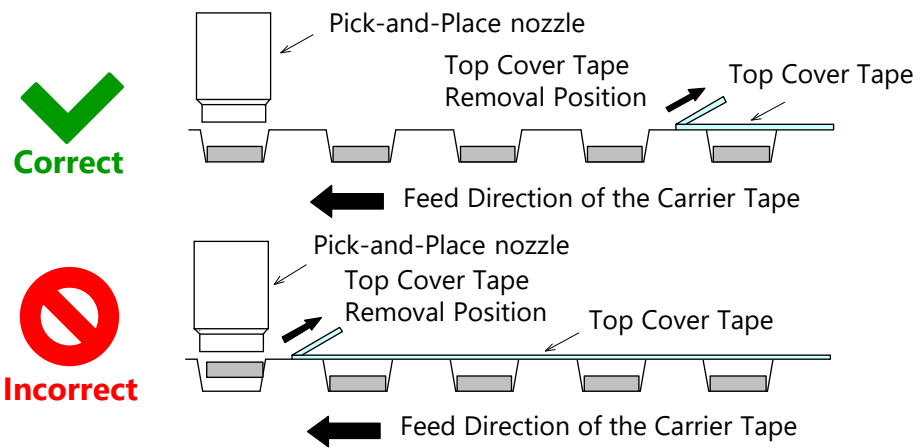

Figure 6. Examples of Correct/Incorrect Top Cover Tape Removal Positions
3. When removing the top cover tape, it should be done past three LEDs away from the target LED (See Figure 6). Otherwise, it may shake the embossed carrier tape and cause the LED to move within the tape pocket. This may cause